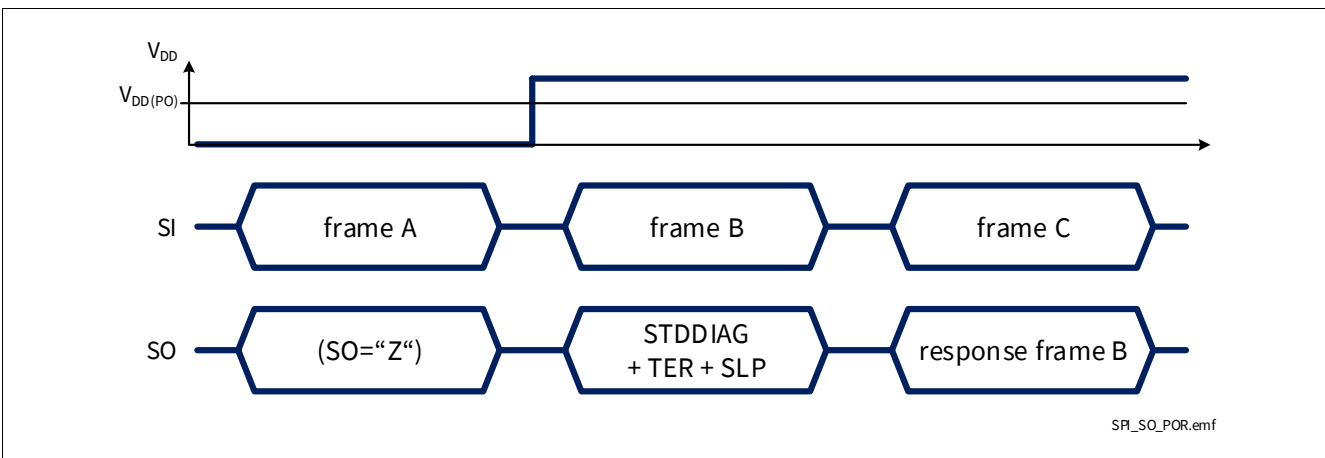

Figure 44 SPI response after coming out of Power-On reset at V_{DD}
- When BTS71040-4ESA digital supply comes out of Power-On reset condition, as shown in Figure 44